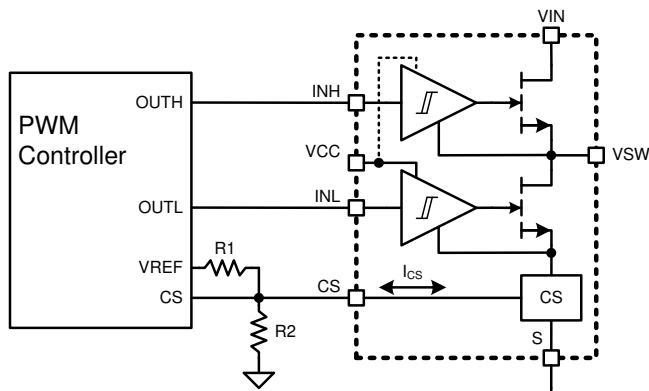

Fig. 30 Bidirectional CS System Schematic
The current flowing through the internal low-side GaN power FET is sensed internally and then converted to a current at the current sensing output pin (CS). An external resistor divider ( $R_1, R_2$ ) is connected to the CS pin and is used to set the amplitude of the CS pin voltage signal (Fig. 30). This allows for the CS pin signal to work with different controllers with different current sensing input thresholds. It is recommended to place the resistor divider close to the CS pin for improved robustness against system noise. The resistor divider is driven by an external voltage, allowing it to set the midpoint voltage at an arbitrary level. Positive current through the GaN power FET will result in a current out of the CS pin, increasing the voltage at the midpoint of the resistor divider, and negative current through the GaN power FET will result in a current into the CS pin, reducing this voltage. The CS pin current is a function of the gain factor and the absolute current in the power transistor (see Equation 1). Care should be taken in the choice of resistor values, to ensure that the voltage range corresponding to full positive to full negative current is adequately positioned within the ADC input voltage range, and the maximum voltage at the CS pin (see Equation 2).